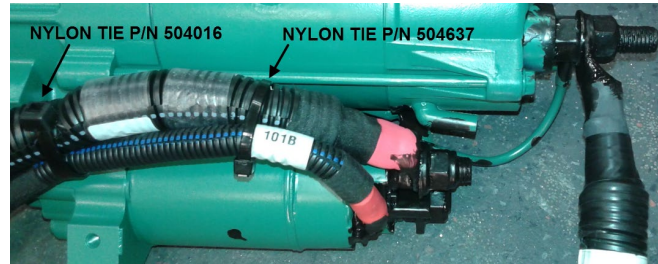

FIGURE 12
13. Tie circuit **101** and **101B** together using one nylon tie *p/n 504637* as shown on FIGURE 12.